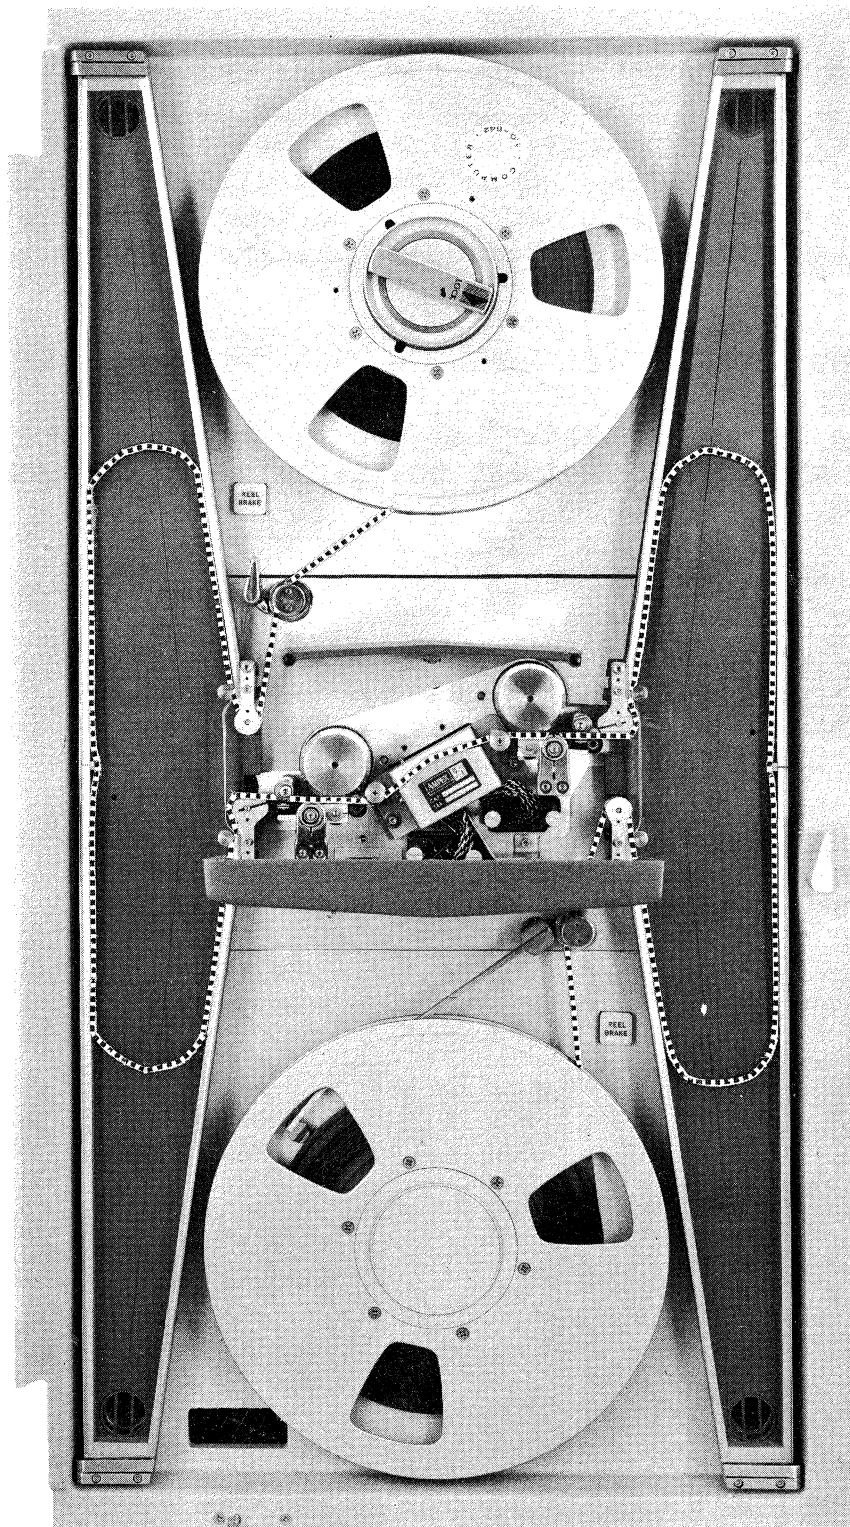

Figure 3-2. Tape Threading Path
Step 4: Referring to Figure 3-2, pass the tape to the left of the lower leader sensing post, over the roller guide of the vacuum chamber, and between the lower vacuum chamber guide and the chamber wall.